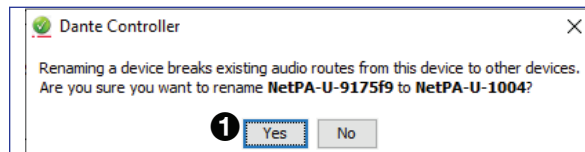

Figure 85. Rename Device Confirmation Dialog Box
9. Click **Yes** (see figure 85, ❶) to confirm the new name, then close the **Device Configuration** dialog box. The new name is written to the Dante interface of the NetPA Ultra Series amplifier. Repeat as necessary for all devices.